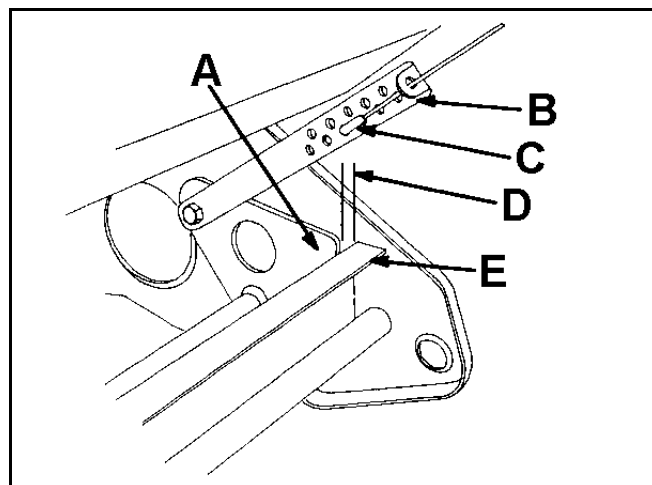

Figure 83
4. Ensure that the distance between the pivot plate and the wheel frame is 0 to 1/8 in. (0 to 3mm) as shown in Figure 83.